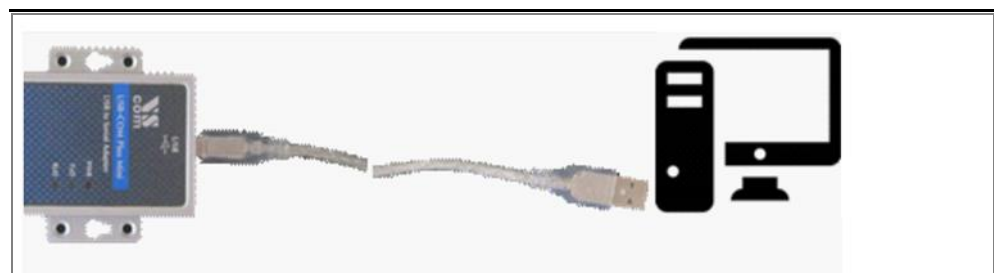

Fig.2
- ▶ Connect the RS-485 converter with an USB cable to the PC (Fig. 2).